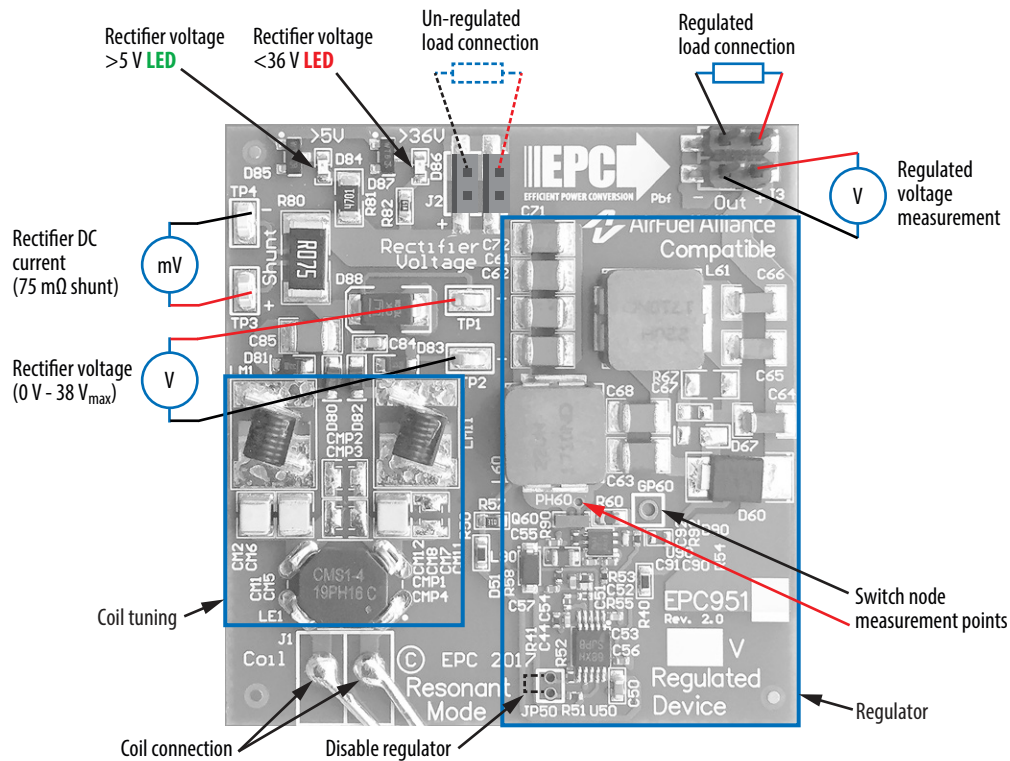

Figure 3: Proper connection and measurement setup for the receiver board.
Figure 3 shows the proper connection method to the EPC9513.
The EPC9513 demonstration system is easy to set up and evaluate the performance of the eGaN FET in a wireless power transfer application. Refer to figure 3 for proper connection and measurement setup before following the testing procedures.
1. Make sure the entire system is fully assembled (this includes the wireless power transmitter) prior to making electrical connections and make sure jumper JP50 is NOT installed. Connect the load to the regulated output and connect all required instrumentation according to figure 3.
1. Make sure the entire system is fully assembled (this includes the wireless power transmitter) prior to making electrical connections and make sure jumper JP50 is installed. Connect the load to the un-regulated output and connect all required instrumentation according to figure 3 (where applicable).
When measuring the high frequency content such as the switch-node, care must be taken to avoid long ground leads. An oscilloscope probe connection (preferred method) has been built into the board to simplify the measurement of the switch-node voltage (shown in figure 3).